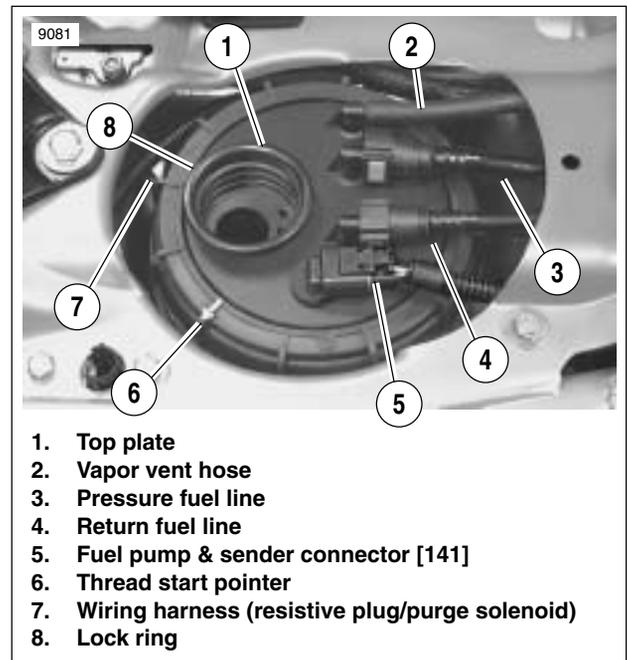

Figure 4-2. Fuel Tank Top Plate
- a. See Figure 4-2. Disconnect the fuel pump and sender connector (5) [141] from the top plate (1).
7. See Figure 4-2. At the fuel rail, disconnect the larger pressure fuel line (3) and the smaller return fuel line (4) by pressing blue buttons with thumb and first finger.
9. Use opposite thumbs to push the vapor vent hose (2) off of the outlet tube.
- See Figure 4-2. Orient the pointer (6) on the lock ring to point 90 degrees to the left side of the motorcycle. In this position the start of the lock ring threads match the start of the threads on the collar of the opening in the fuel tank. Thread on lock ring. Use FUEL CAP REMOVER/INSTALLER (HD-45324) to tighten the lock ring to 54-61 Nm (40-45 ft-lbs).
- Mate the fuel pump and sender connector half (5) [141B] while supporting the top plate connector half [141A] with the opposite hand.